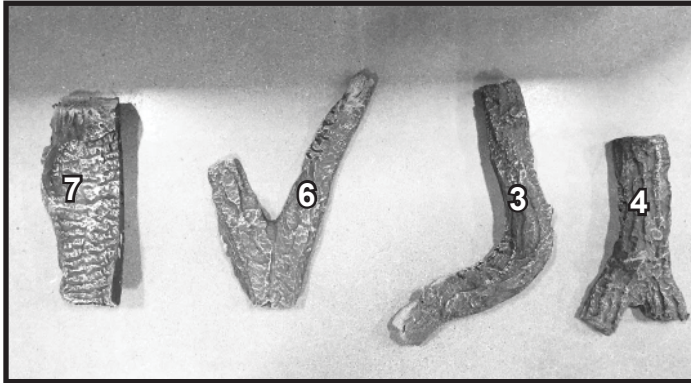

Figure 15. LOGS-COSMO32
**NOTICE:** To simplify the installation process, use Figure 15 to positively identify each individual log before beginning installation.